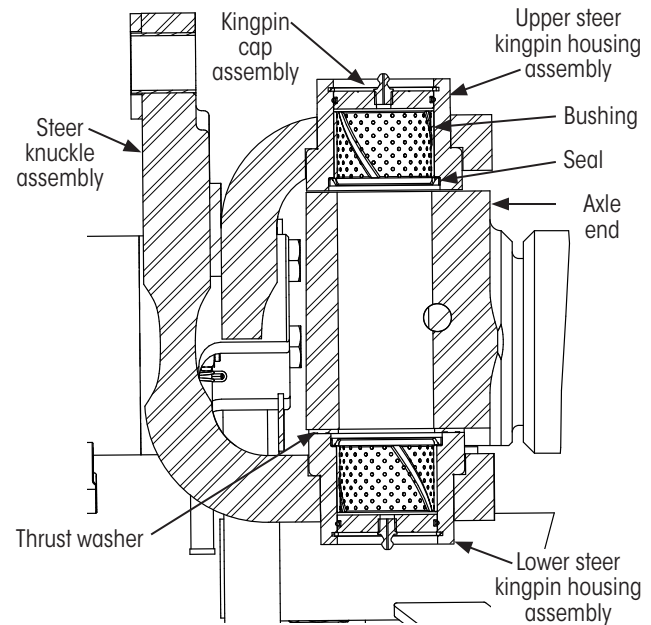
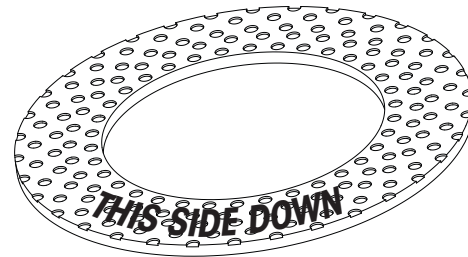
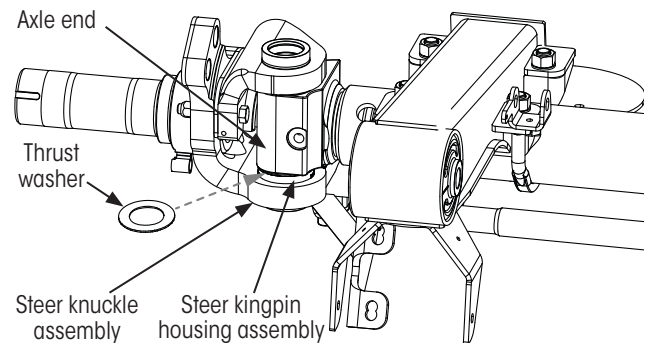

Figure 24: Kingpin axle end components (kingpin not shown)
Figure 32: Thrust washer
Figure 33: Installing thrust washer
Kingpin bushings and seals are inserted in the identical upper and lower kingpin housing assemblies (Figure 24) and are included in the service kit. The kit should also include the thrust washer (Figure 32 on page 18) which must also be replaced. If necessary, replace the kingpin and/or draw key.
8. **Insert** thrust washer, dimples facing down (Figure 32), between lower kingpin housing assembly and axle end (Figure 33).